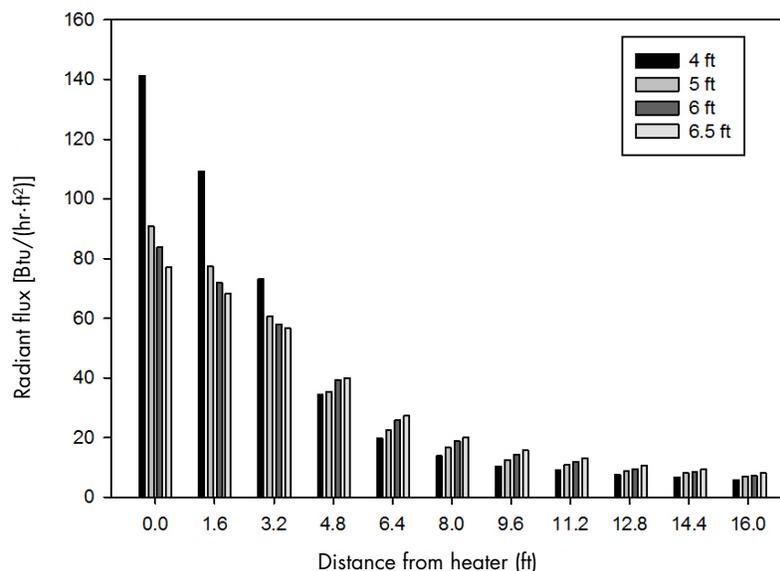
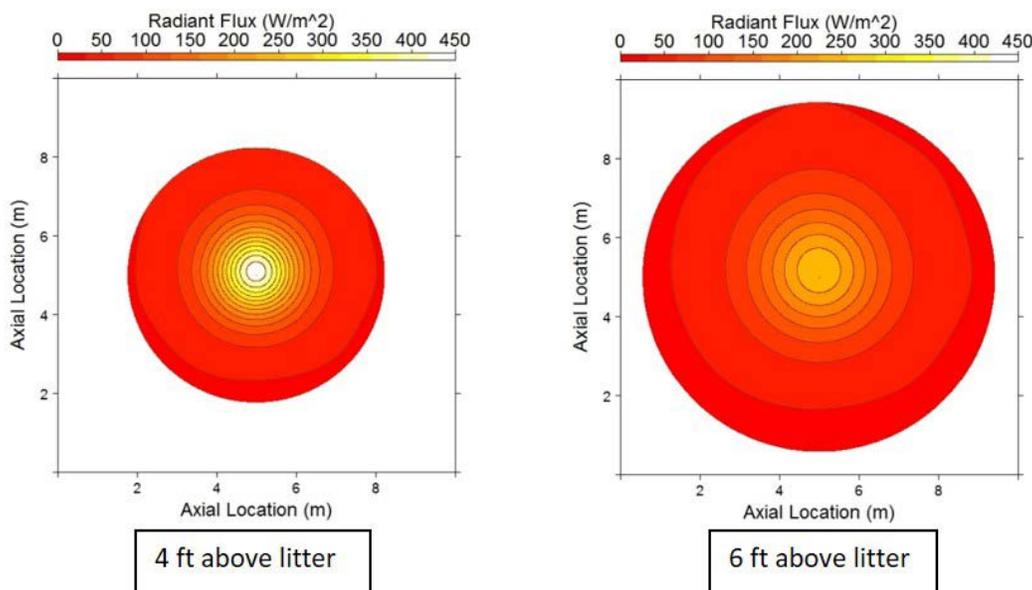

Figure 2. Maximum radiant flux as a function of distance from brooder center for a single brooder at different elevations above the litter.
Figure 3. Radiant flux distribution maps for a heater at 4 feet and 6 feet above the litter. Each circular area illustrates the total heated floor area.
Radiant flux at the litter is usually strongest directly below the brooder and decreases with distance from the brooder (**Figure 2**). This is beneficial to chicks because it allows them to move around in the heated area and “choose” a spot that is comfortable to them. A chilled chick can move closer to the brooder, while a warm chick can move farther away.
Maximum radiant flux values experienced at the litter are inversely related to brooder elevation. This means that, as brooder elevation increases, maximum radiant flux decreases, and vice versa. **Figure 2** clearly shows that maximum radiant flux is experienced directly below the brooder center (distance = 0.0 feet) at all brooder elevations. **Figure 2** also shows that maximum radiant flux decreases as the brooder is raised from 4 feet to 6.5 feet. Czarick and Lacy (1995) showed similar relationships between brooder elevation and maximum litter temperature.
**Figure 2** shows that, at 4.8–16 feet from the brooder, radiant fluxes are highest at 6.5 feet. The best way to explain this is with a flashlight analogy. If you place a lit flashlight 6 inches from a wall, the light distribution on the wall will cover a small area, but it will be very intense and bright. Move the flashlight back 3 feet from the wall and the light distribution changes dramatically. Now, the light covers a larger area of the wall but is less bright because the light has been diffused over a larger wall area. The way in which heat is distributed to the litter from a radiant brooder can be thought of like a beam of light created by a flashlight. **Figure 3** does a good job of illustrating this point. It shows the radiant flux distribution for the same brooder at 4 feet and 6 feet above the litter. At a brooder